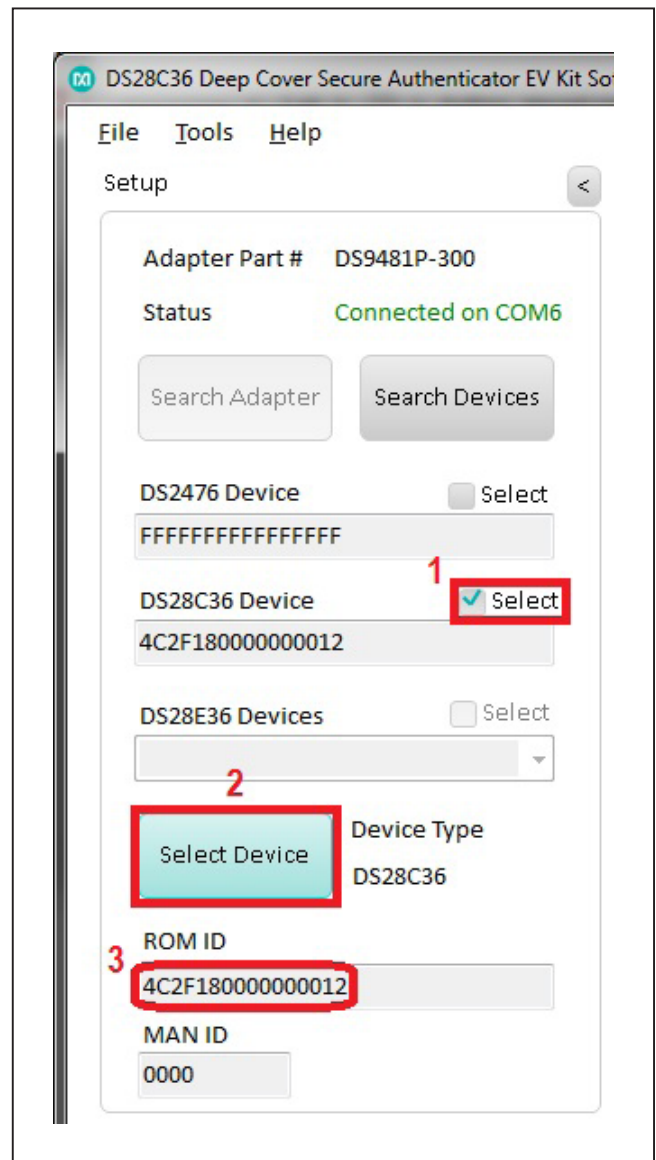

Figure 15. Selecting DS28C36 in the Setup Area
- 1) If not already done, select device DS28C36 by checking its **Select** box, then clicking the **Select Device** button. Observe that the **ROM ID** field is updating with DS28C36's ROM ID value (Figure 15).
- 1) If not already done, select device DS28C36 by checking its **Select** box, then click the **Select Device** button, and observe that the ROM ID field is updating with the DS28C36's **ROM ID** value, as shown in Figure 15.